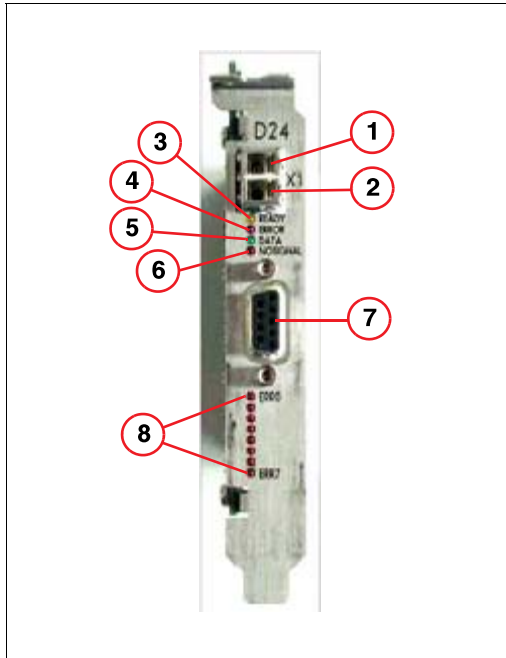

Fig. 38: Receiver board G-Rec64 D24
- The yellow LED **Ready** (3/Fig. 38 / p. 66) indicates that the driver is loaded and the board is in the Ready status, typically after a mode is loaded. If the local firmware is properly loaded, the LED flashes during standby.
- The red LED **Err** (4/Fig. 38 / p. 66) indicates that a transmission error has occurred.
- The green LED **Data** (5/Fig. 38 / p. 66)(5/Fig. 38 / p. 66) indicates that block data are being received.
- The red LED **NoSignal** (6/Fig. 38 / p. 66) indicates that no optical signal is available. In this case, check the optical connection between the receiver board and gantry or perform a loop back test as described in (Local test of the back projector, CAN communication, and receiver board / p. 103).
- The red LEDs **Err0** to **Err7** (8/Fig. 38 / p. 66) display the output of an 8-bit error counter. The counter is incremented via hardware with each error detected, and cleared at the beginning of a scan.